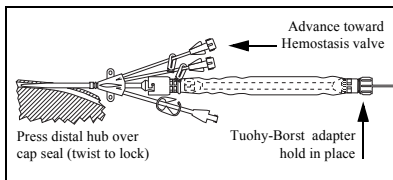

Fig. 11
- Hold rear hub (Tuohy-Borst adapter end) of catheter contamination shield in place. Disengage distal hub from inner feed tube by moving forward. Advance distal hub forward toward hemostasis valve assembly. Hold assembly in place (refer to Fig. 11).